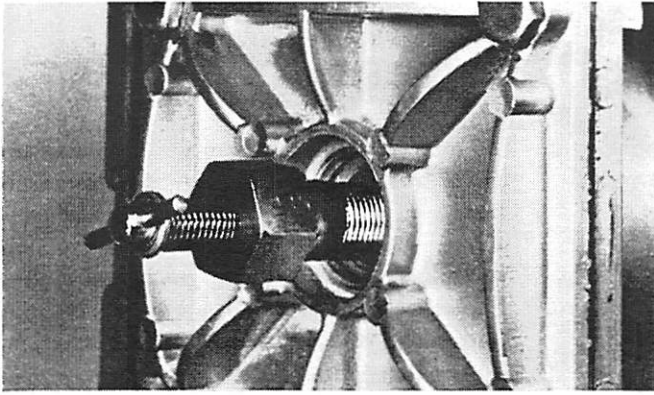

Figure 3. Timing Gauge in Spark Plug Hole
3. Thread Timing Gauge (91-26916A1) into No. 4 spark plug hole. (Figure 3)